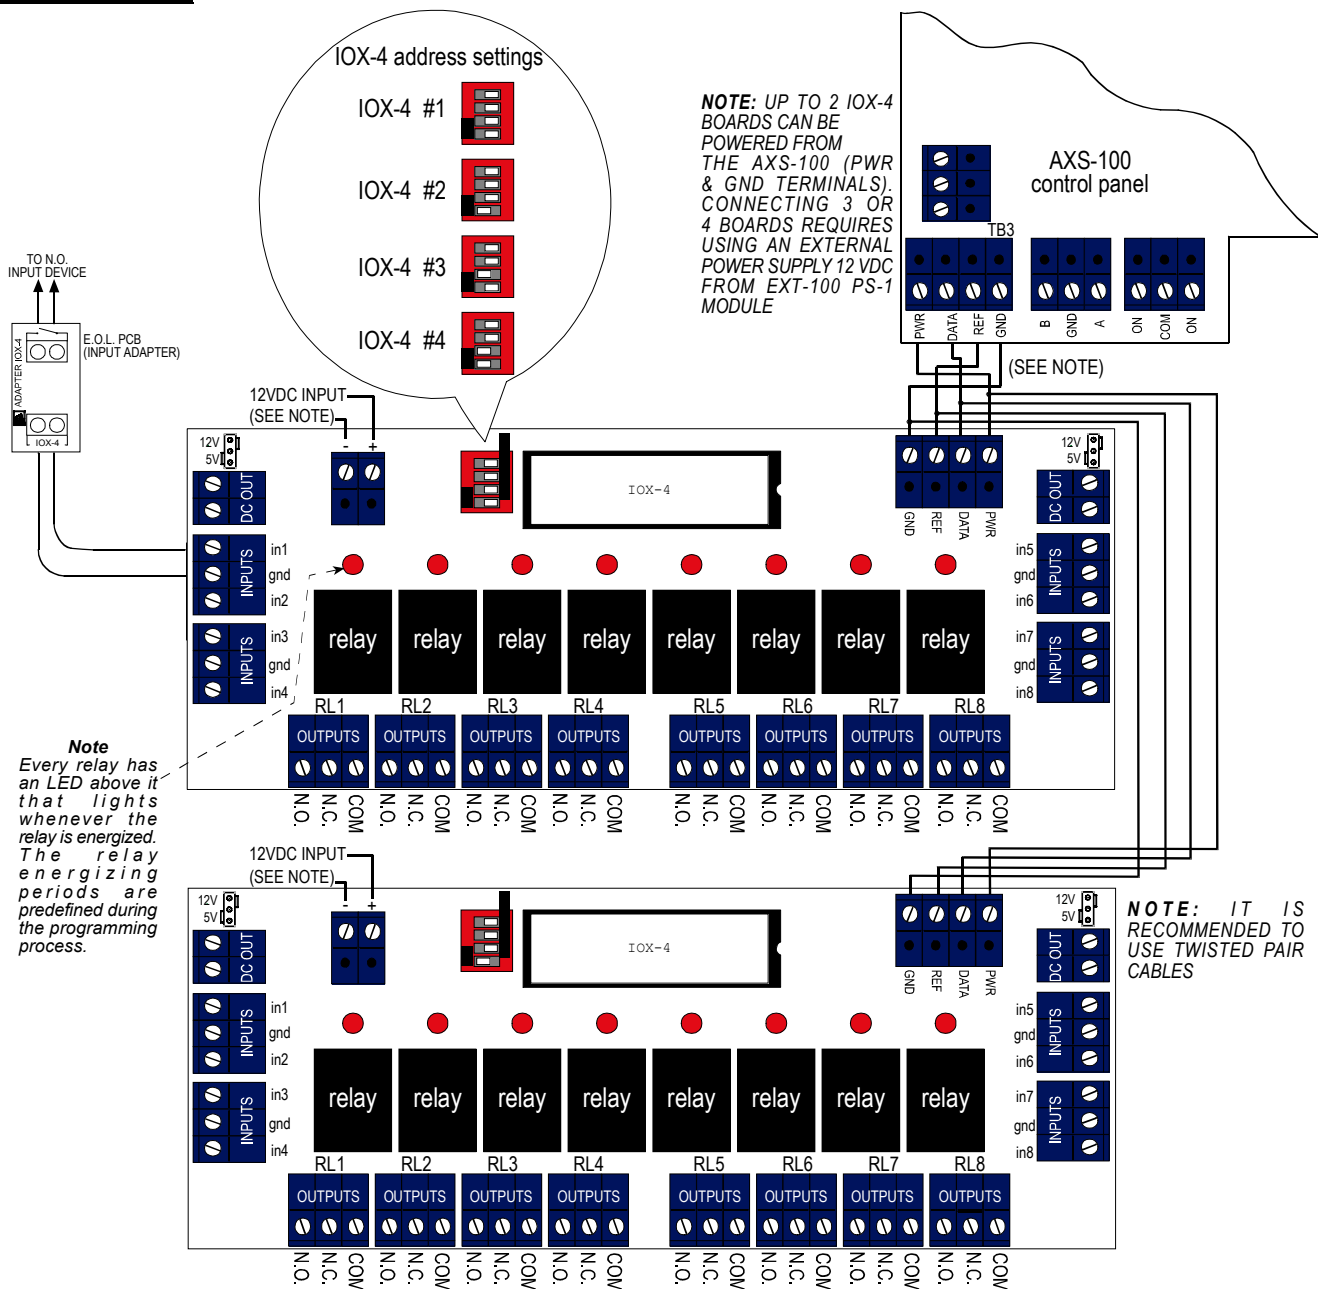

Figure 4 - IOX-4 Connection Diagram
Each input device has to have an EOL PCB input adapter connected next to it (see figure 4). The IOX-4 is supplied with 8 modulars.
3. Connect input devices to input terminal blocks as shown in Figure 4.
4. Connect dry contact outputs to relay terminal blocks as shown in Figure 4.